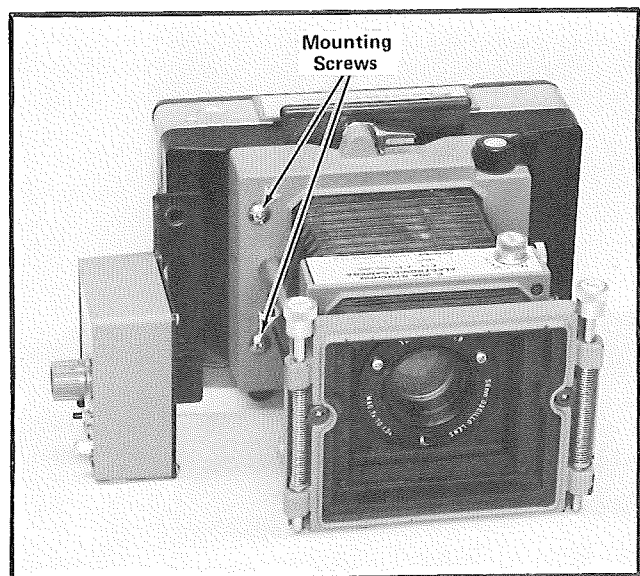

Fig. 2-15. Mounting the Writing Speed Enhancer control box on the C-30A/C-31 cameras.
7. Loosen the two screws on the right-front side of the rear camera casting (see Fig. 2-15) enough to allow slipping the Writing Speed Enhancer control box mounting bracket under them. Retighten the two screws.